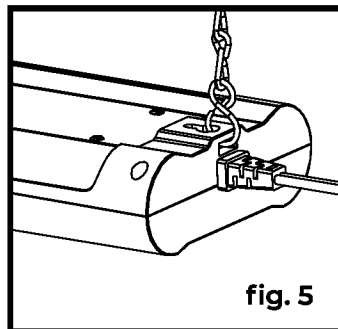

fig. 5
4. Plug in the power cord to electrical outlet, or to additional shop lights (fig. 5).